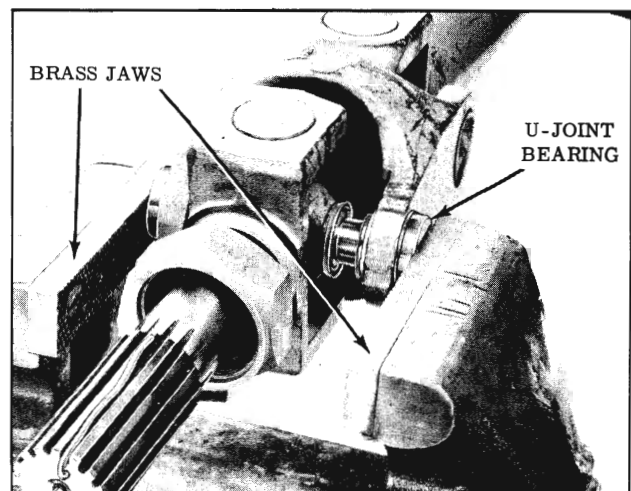

Fig. 6-151 Installing "U" Joint
5. Press a bearing into one side of yoke, Fig. 6-151, until retaining ring can be installed.